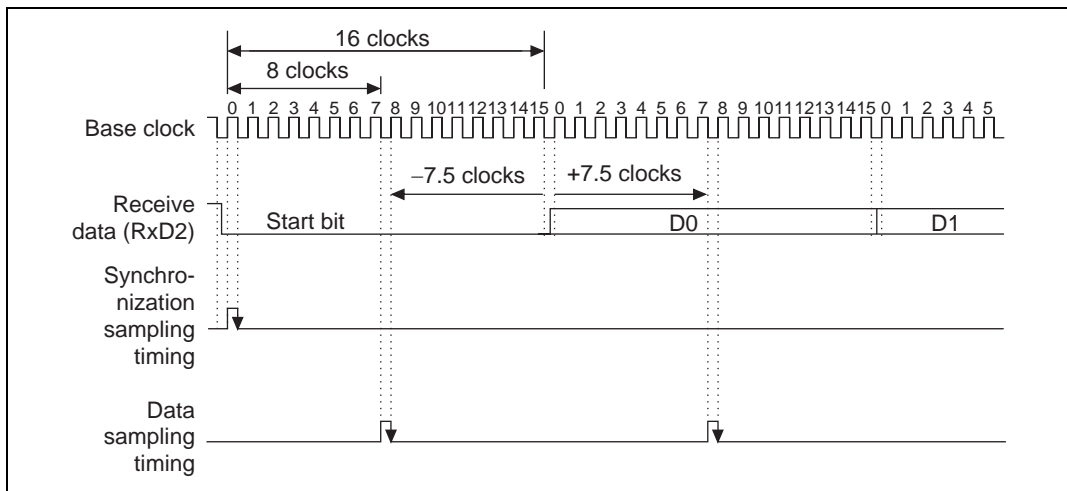

Figure 19.12 Receive Data Sampling Timing in Asynchronous Mode
6. **Receive Data Sampling Timing and Receive Margin:** The SCIF operates on a base clock with a frequency of 16 times the transfer rate. In reception, the SCIF synchronizes internally with the fall of the start bit, which it samples on the base clock. Receive data is latched at the rising edge of the eighth base clock pulse. The timing is shown in figure 19.12.